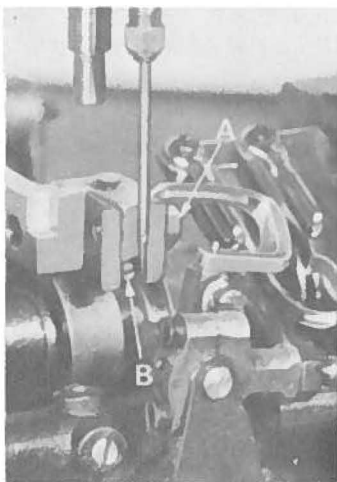

Fig. 10
Parallel adjustment can be made by loosening nut (A, Fig. 10) and turn screw (B) clockwise to lower front of feed dog, counterclockwise acts the reverse. When properly set, retighten nut (A).